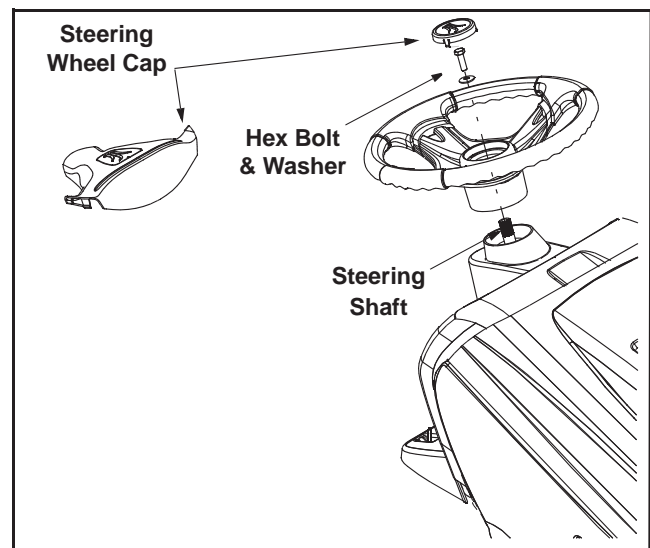

Figure 2
**NOTE:** There are two different styles of steering wheel cap. See Figure 2. *Styles vary by model.*
- Reinsert the steering wheel cap in the center of the steering wheel. Refer to Figure 2.